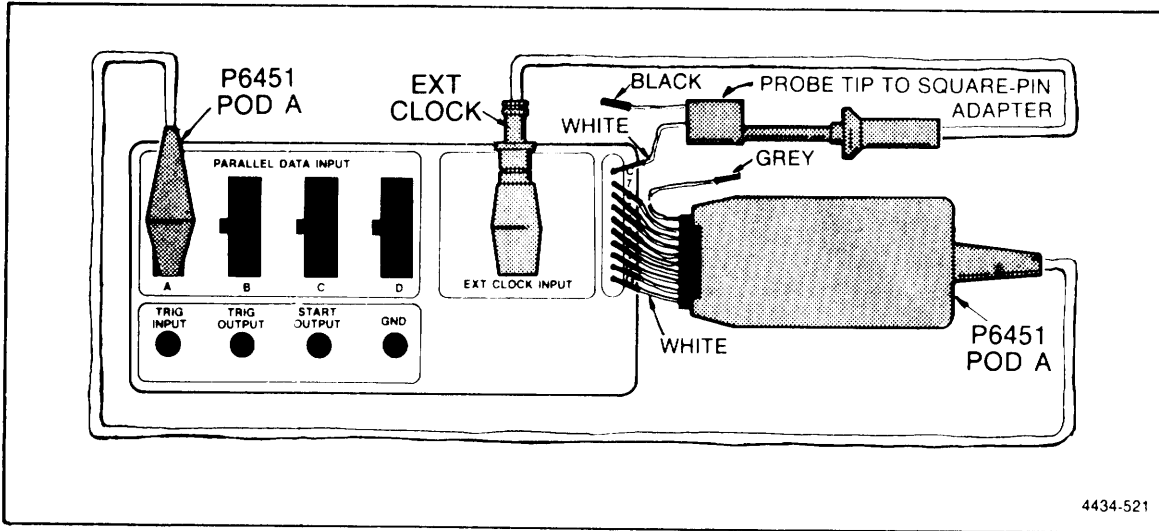

Figure 5-41. 338 Parallel data acquisition check setup.
- a. Power up the 338 and connect the P6107 External Clock probe tip to TEST OUTPUT-C on the right side panel. See Figure 5-41.